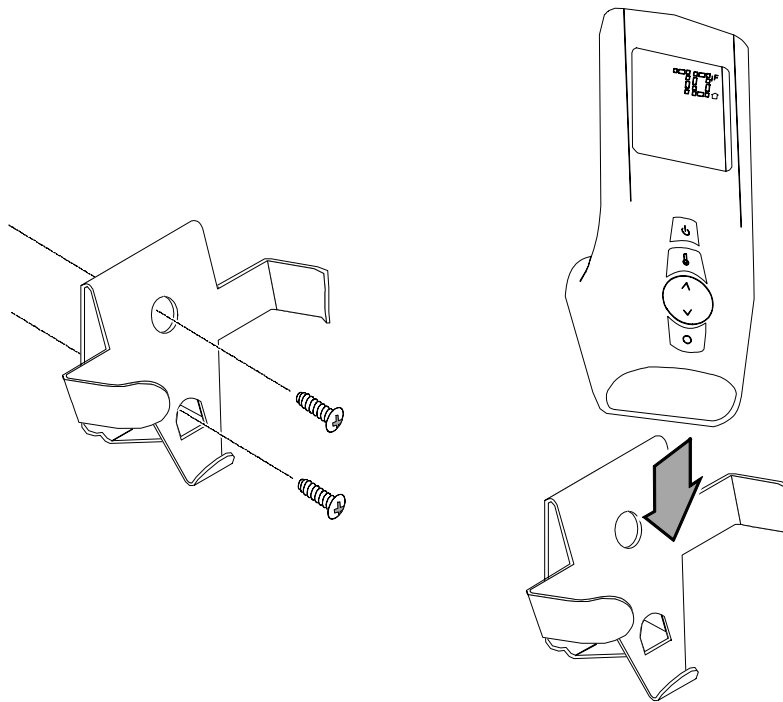

Figure 37
- 22 A wall mount is included with this kit for the remote. It may be mounted to the wall for easy access and storage. Use the included drywall anchors (and screws) to secure it to the wall (see Figure 37).